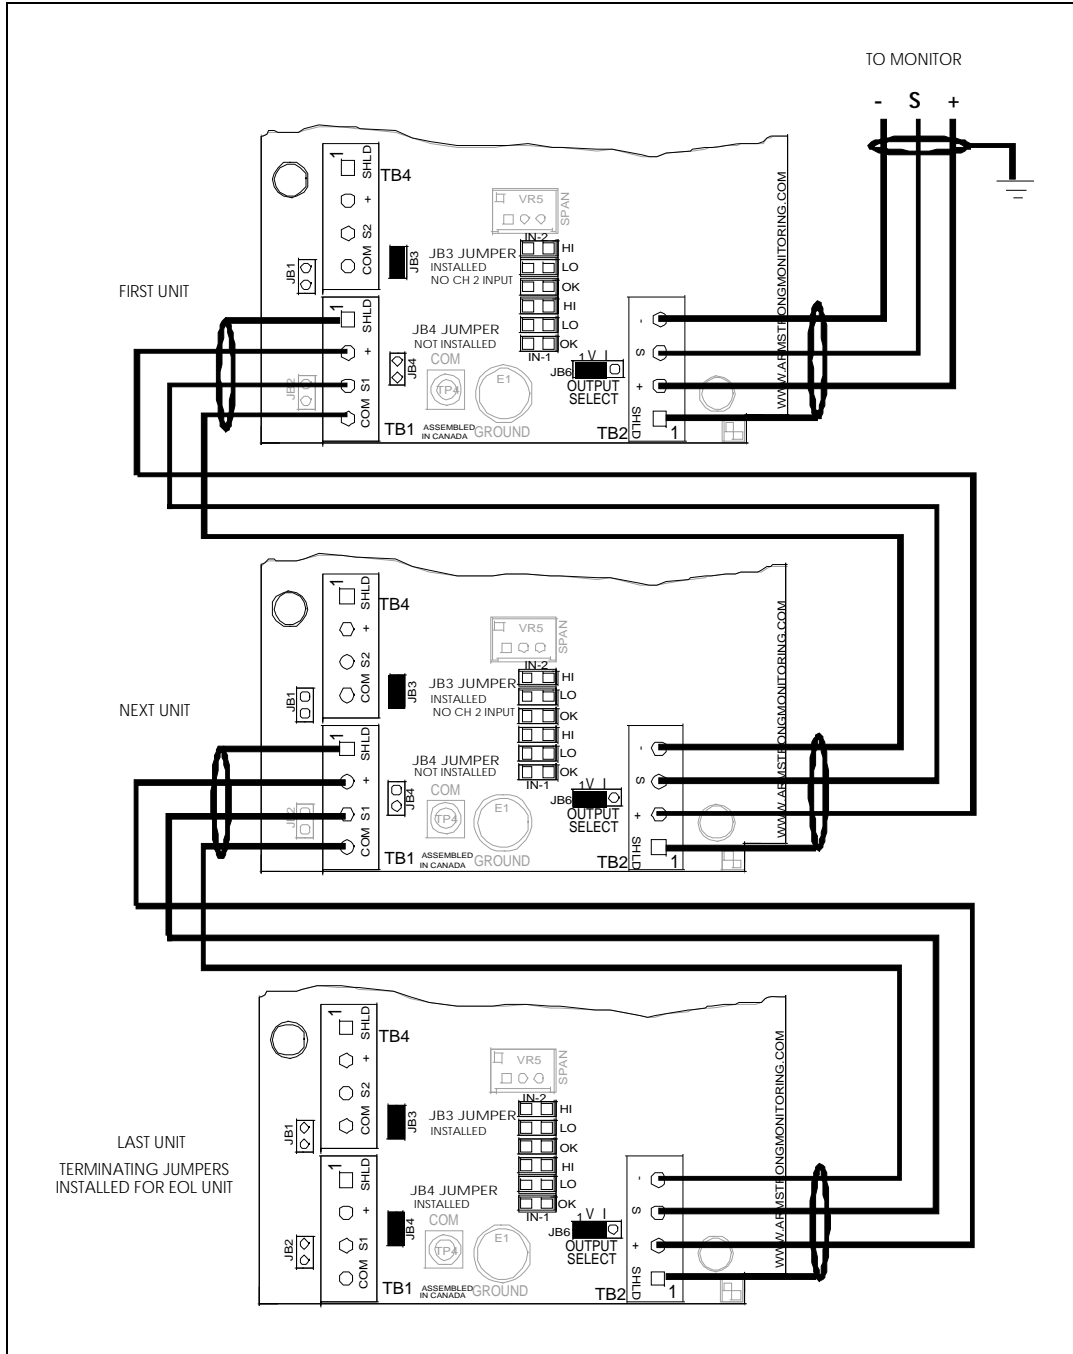

Figure 4-3 Detail Wiring of Sensor Modules
To gain access to the terminal blocks, remove the four (4) screws and front panel from the housing. This will expose the field wiring terminals. The sensor module output (-, S, +, SHLD) terminal block, connects to the input terminal block of the previous unit, or to the sensor/transmitter terminal block in the monitor, as shown in Figure 4-3.
Each sensor module is designed to interconnect to other units in series and/or branching configurations. Various typical configurations are shown in Figure 4-3, illustrating the versatility of this type of system. Because each unit is pre-calibrated, additional units can be added to a system without altering the monitor settings. When multiple units are interconnected, either one or both jumpers need to be removed (refer to section 4.2.2 TERMINATION and Figure 4-3).
For each unused input terminal block, the corresponding jumper MUST be left installed (as shown in Figure 4-3). Failure to do so may cause the system to malfunction. Termination detailed as follows: